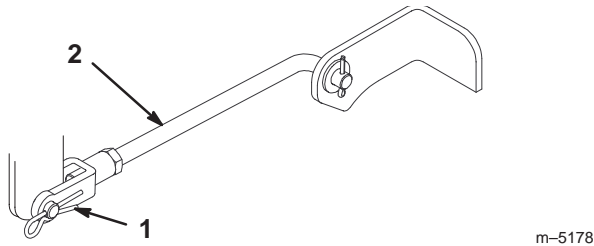

Figure 46
5. Remove the hairpin cotter and clevis pin from the front trunion yokes (Fig. 46).
8. Attach the front trunion rods to the tractor with the clevis pins and hairpin cotteners (Fig. 46).